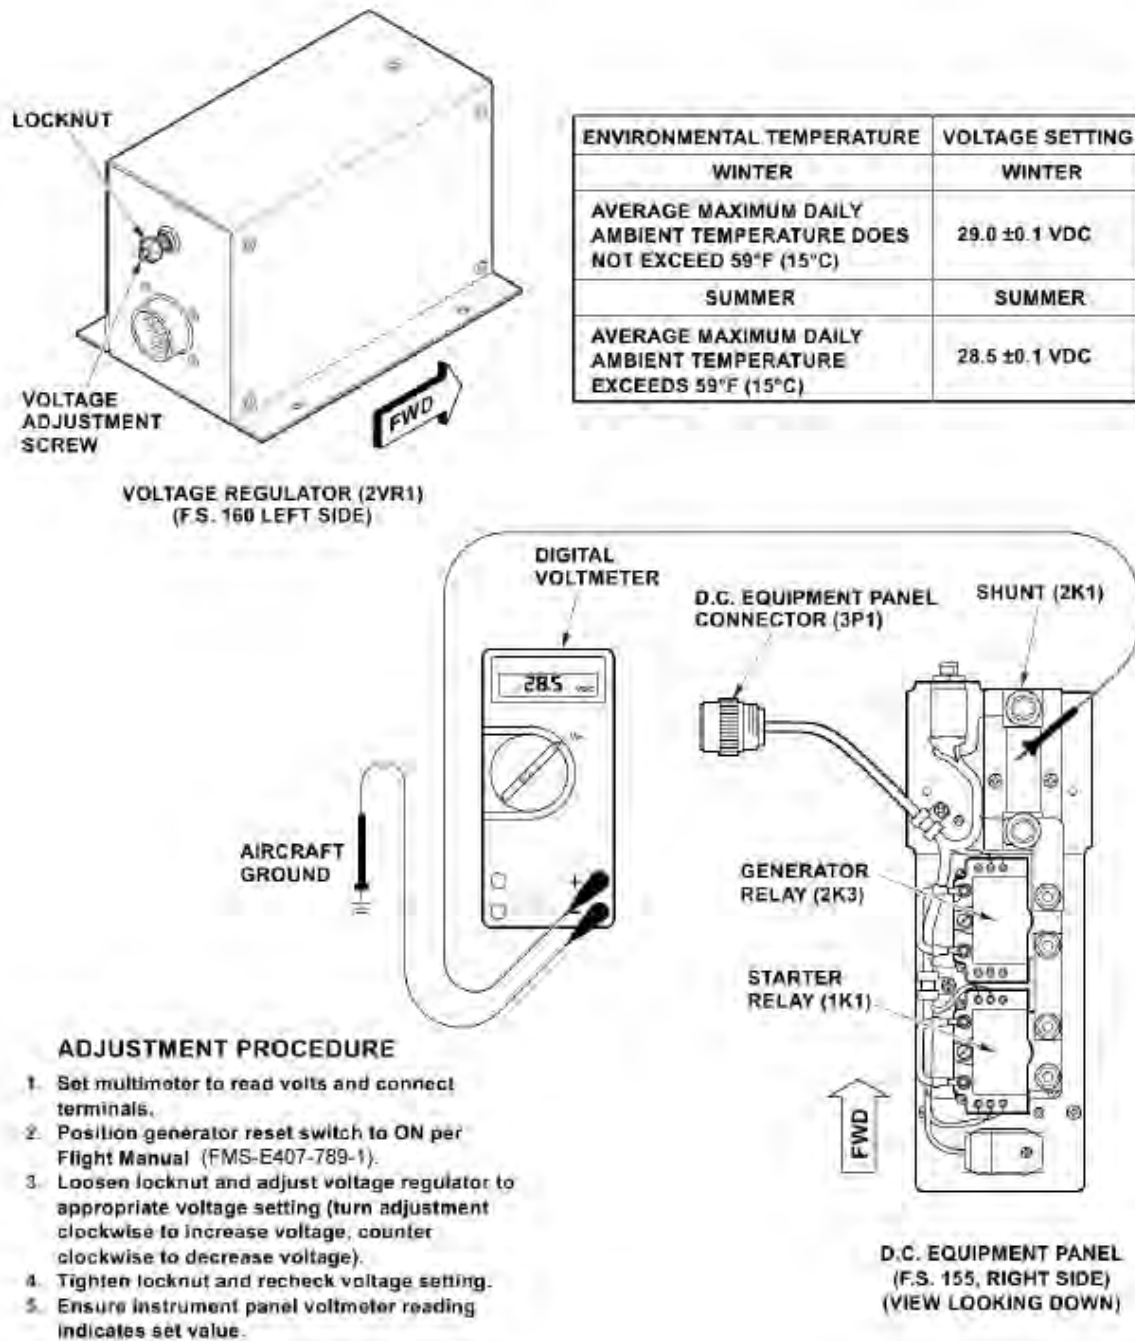

Figure 96-40: Voltage Regulator (2VR1) - Adjustment
2. Gain access to the DC equipment panel in the equipment compartment (Figure 96-40). Remove the protective cover.